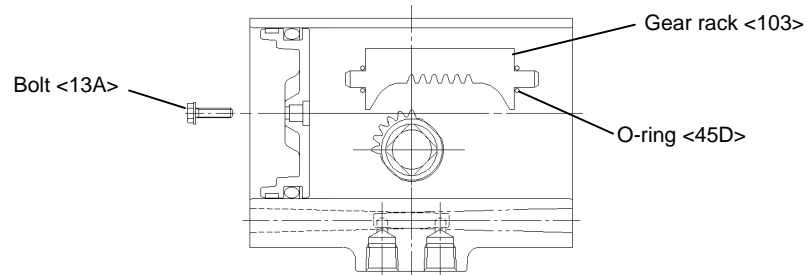

Fig.10
- (8) Rotate the shaft and move another piston toward the end cover opening. Loosen a hexagon headed bolt and remove the second piston from the housing. Also remove a gear rack (Fig.10).